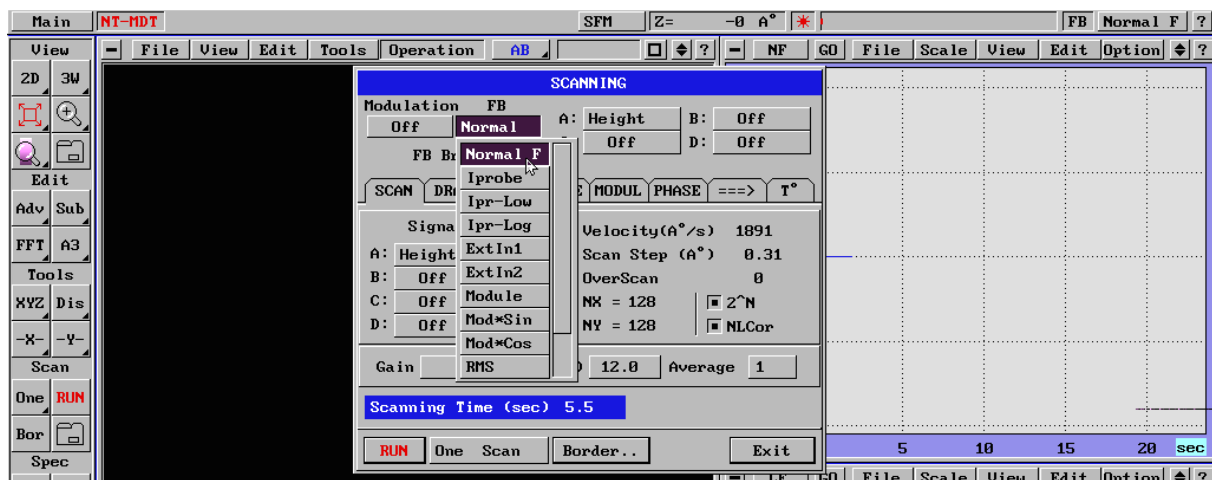

Fig. 169
- FB - Normal Force (Fig. 169)